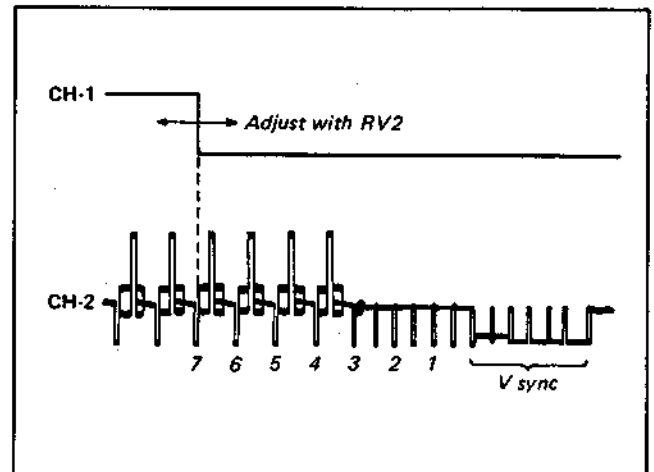

Fig. 4-3-4. RF switching position adjustment (1)
- (4) Connect the oscilloscope as follows.
- (5) Adjust RV2 on the AS-3 board so that the phase difference between the falling section of the CH-1 waveform and the vertical sync signal of the CH-2 video signal are $7\text{ H} \pm 2\text{ H}$. (See Fig. 4-3-4.)